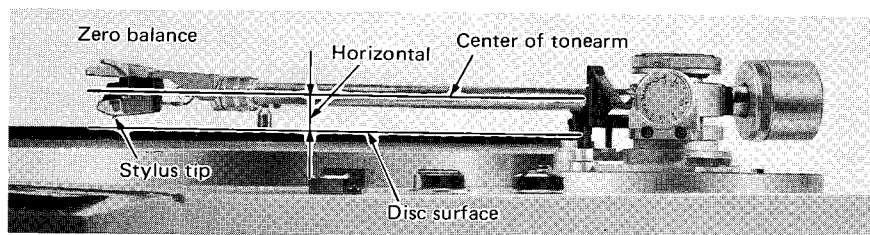

Fig. 17
7. Zero balance adjustment (See Fig. 17)